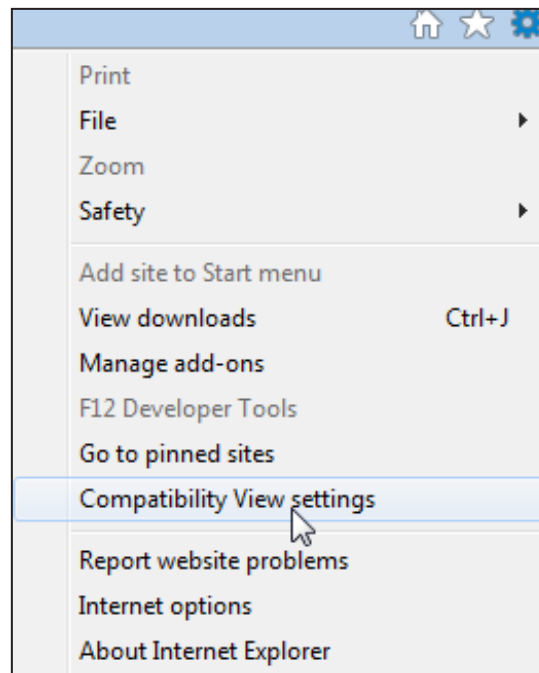

Figure 3. Choose “Compatibility View settings” from the Gear menu. (Microsoft Explorer 11 shown.)
STEP 1. Click on the Gear icon. (Or the **Tools** menu in Microsoft 8 through 10.) From the drop down menu, click on the Compatibility View settings item. See Figure 3.